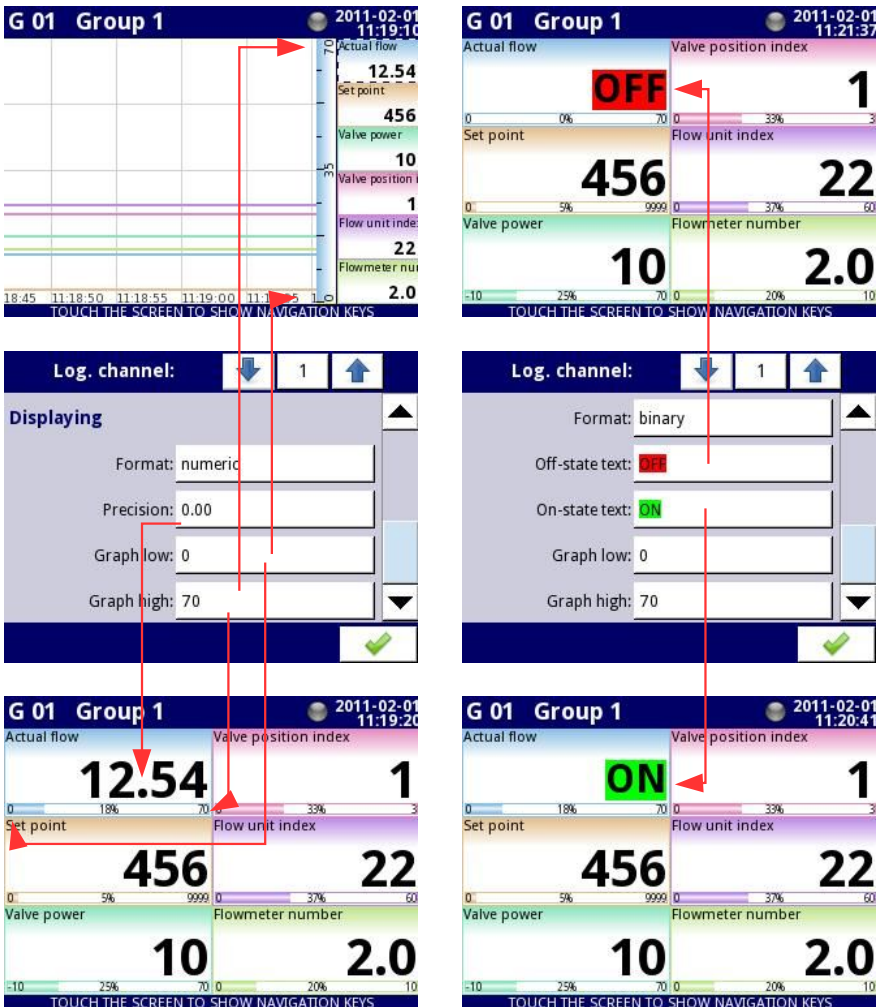

Fig. 7.44. Input channels menu – 2 different kinds of Displaying parameters
- **Precision** – this parameter occurs when the **Format** parameter is set as **numeric** or **time**, which specifies the precision to be displayed on the output value (see **Fig. 7.44**),
- **Graph low** – the minimum range value for graphs, bars, needle dials and percentage bars (see **Fig. 7.44**),
- **Graph high** – the maximum range value for graphs, bars, needle dials and percentage bars (see **Fig. 7.44**),